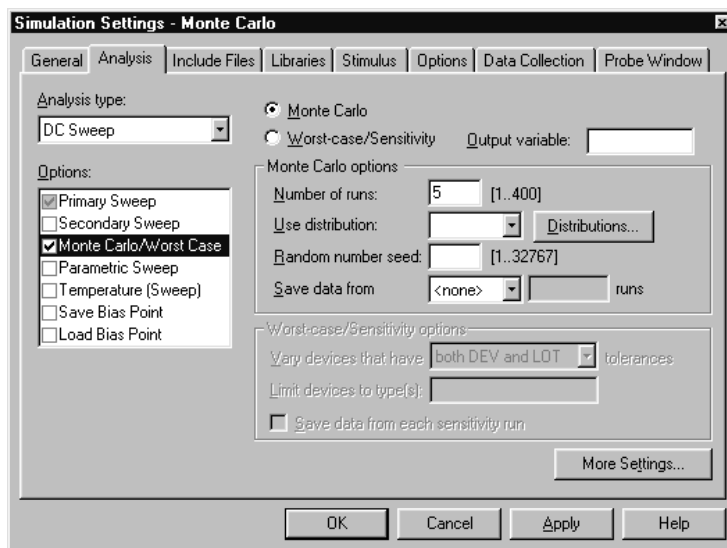

Figure 75 Monte Carlo analysis setup for EXAMPLE.DSN.
- 3 In Capture, set up a new Monte Carlo analysis as shown in Figure 75. The analysis specification tells PSpice to do one nominal run and four Monte Carlo